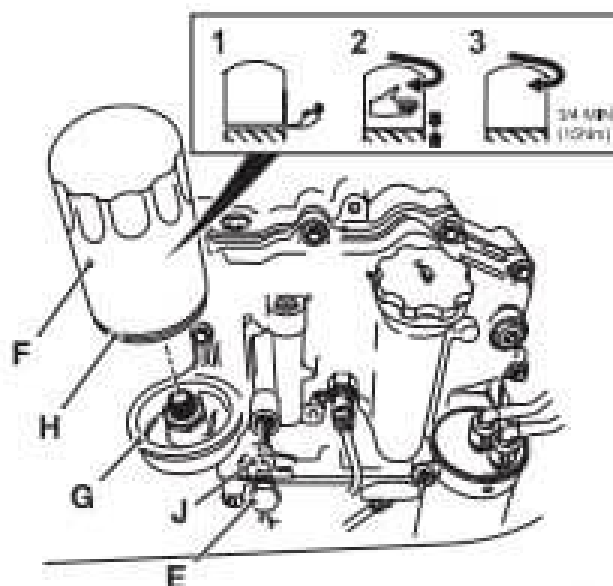

Fig 7.
- 4 Place a container of suitable size under drain plug E to catch the oil. ➔ Fig 7. (D 3-31).